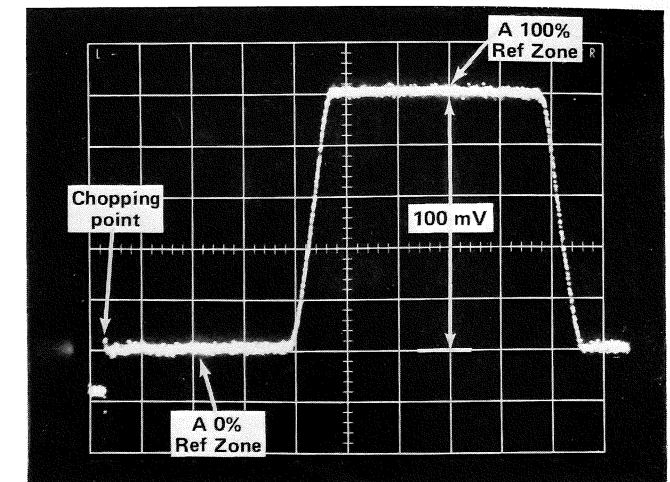

Fig. 6-5. Waveform for adjusting gain of signal chopper (C2 on 10X attenuator).
h. Trigger the pulse and position it to the center of the CRT using the sampling unit DC Offset and sampling sweep Delay controls (see Fig. 6-5).